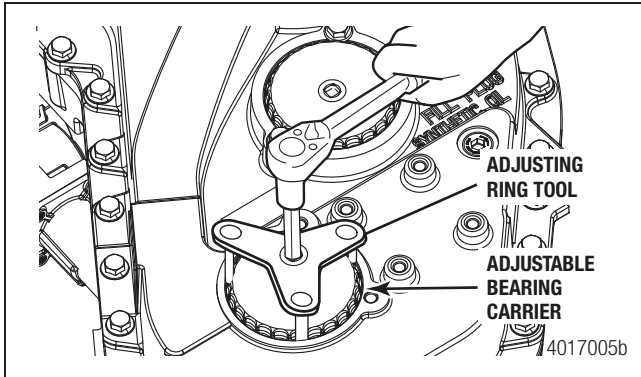
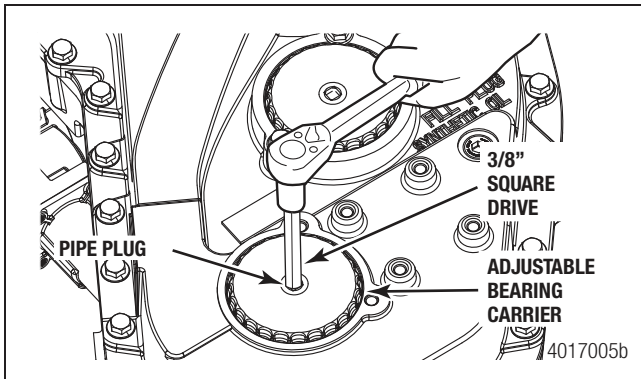
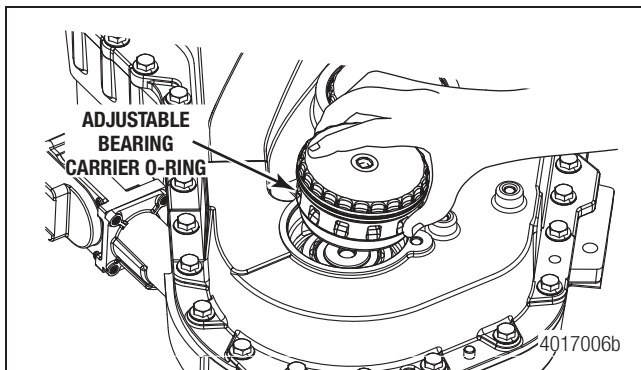

Figure 11.4
Figure 11.5
Figure 11.6
6. With the original orientation of the adjustable bearing carrier clearly marked, place the "Idle & Forward Output Adjusting Ring" tool (see page 69) in Figure 17 on the face of the bearing carrier. Do NOT rotate the pipe plug yet. Figure 11.4. Alternately a 3/8" square drive inserted into the pipe plug on the face of the bearing carrier can be used. Figure 11.5.
7. With the tool in Figure 11.4, slowly begin to rotate the adjustable bearing carrier counter-clockwise while counting the full revolutions past your original starting mark. Figure 11.6.
8. Remove and discard the original o-ring from the adjustable bearing carrier. Figure 11.6.
- In the clockwise direction, carefully start the threads of the adjustable bearing carrier back into the case bore, using caution to not damage the o-ring. Once the carrier threads are engaged in the case, begin to thread the carrier clockwise while counting the rotations until the carrier stops rotating past your original reference mark. Note the bearing carrier will only rotate slightly past the original reference mark. At this time, the carrier should be returned to a preloaded state. Rotate the carrier counter-clockwise slightly until the original reference mark on the carrier is lined up to your original reference mark on the case. Figure 11.4 & Figure 11.5.